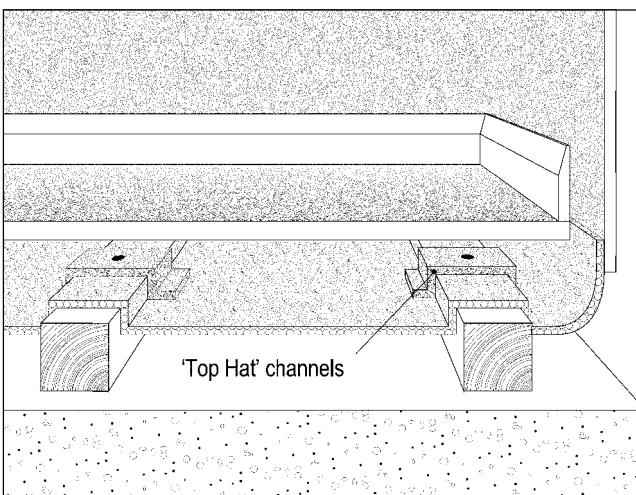

Fig. 3
- 2) A width of Floortherm MP (990mm to suit battens at 400mm centres) should be rolled out along the battens as shown in fig.1 from wall to wall and cut to size to include an upstand at each end of minimum 70mm (see fig.3).
- 3) The long side of this roll width should also be dressed a minimum 70mm up the gable wall (see fig. 3).
- 6) The last width should be installed along the battens as given with a minimum 70mm upstand to the end wall along the long edge of the material (i.e. similar to fig. 3).
- 7) The flooring should be installed by fixing through the Floortherm onto the battens taking care that the material is left protruding above the floor to be eventually held behind the skirting board as shown in fig. 3.
- 8) A first roll of Floortherm MP should be rolled out over the battens from wall to wall and cut to size to include an upstand at each end of minimum 70mm (see fig. 3).
- 9) The long side of this roll width should also be dressed a minimum 70mm up the gable wall (see fig. 3).
- 12) The last width should be installed over the joists using the 'Top Hats' and be dressed a minimum 70mm up the end wall (see fig. 3).
- 13) The flooring should be fixed through the Floortherm to the battens taking care that the Floortherm is protruding all around to be eventually held behind the skirting (see fig. 3).